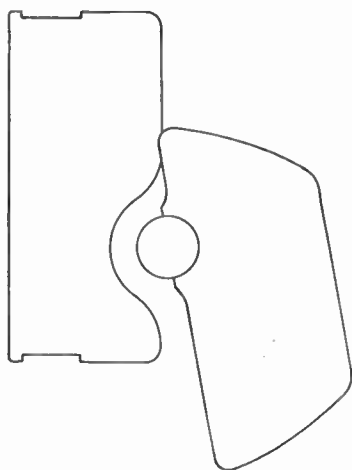

FIG. 218. POSITION OF ROTOR BLADES FOR 1500 K. C.
- (1) Loosen the pointer set-screws.
- (2) Move the rotor plates to the position shown in Figure 218.
- (3) With the rotor in this position, adjust the pointer to the 1500 K. C. position and tighten the pointer set screws.
- (4) Note how far down on the 1500 K. C. mark the pointer comes, then turn the condenser knob to the 550 K. C. mark. The pointer should come down on this mark approximately the same as on the 1500 K. C. mark. If it does not, it is an indication that the front panel is not centered.
- (5) If the front panel is not centered, loosen the screw at each end of the bottom of the front panel and shift the panel one way or another as necessary. Tighten the panel screws and then reset the pointer accurately.